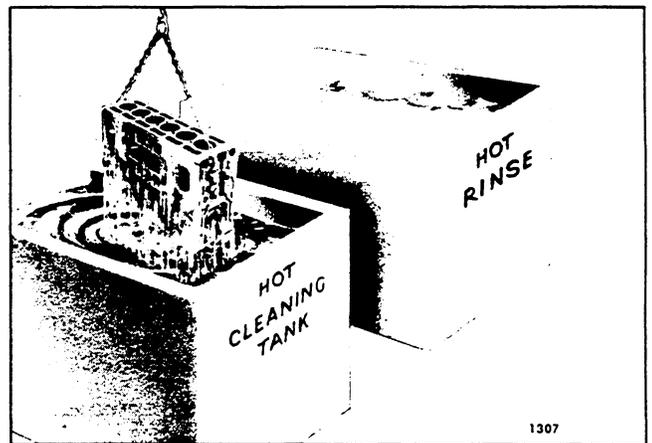

Fig. 7 - Cleaning Cylinder Block
1. Remove the grease by agitating the cylinder block in a hot bath of commercial heavy-duty alkaline solution (Fig. 7).